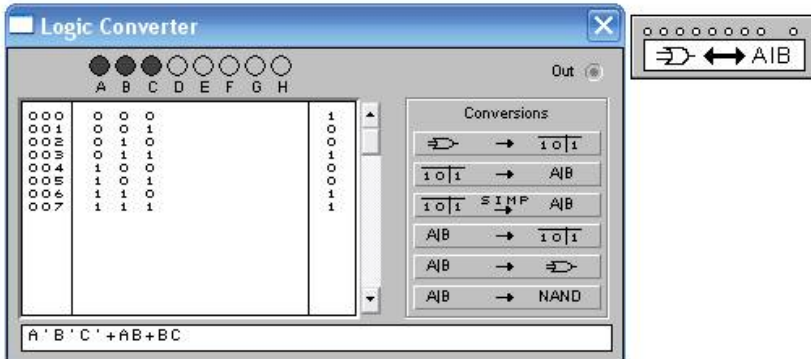

Figure 9.5 – Specifying the truth table in the "Logic converter"
6. Using the "Logic converter" specify the truth of the table in paragraph 5 as shown in fig. 9.5